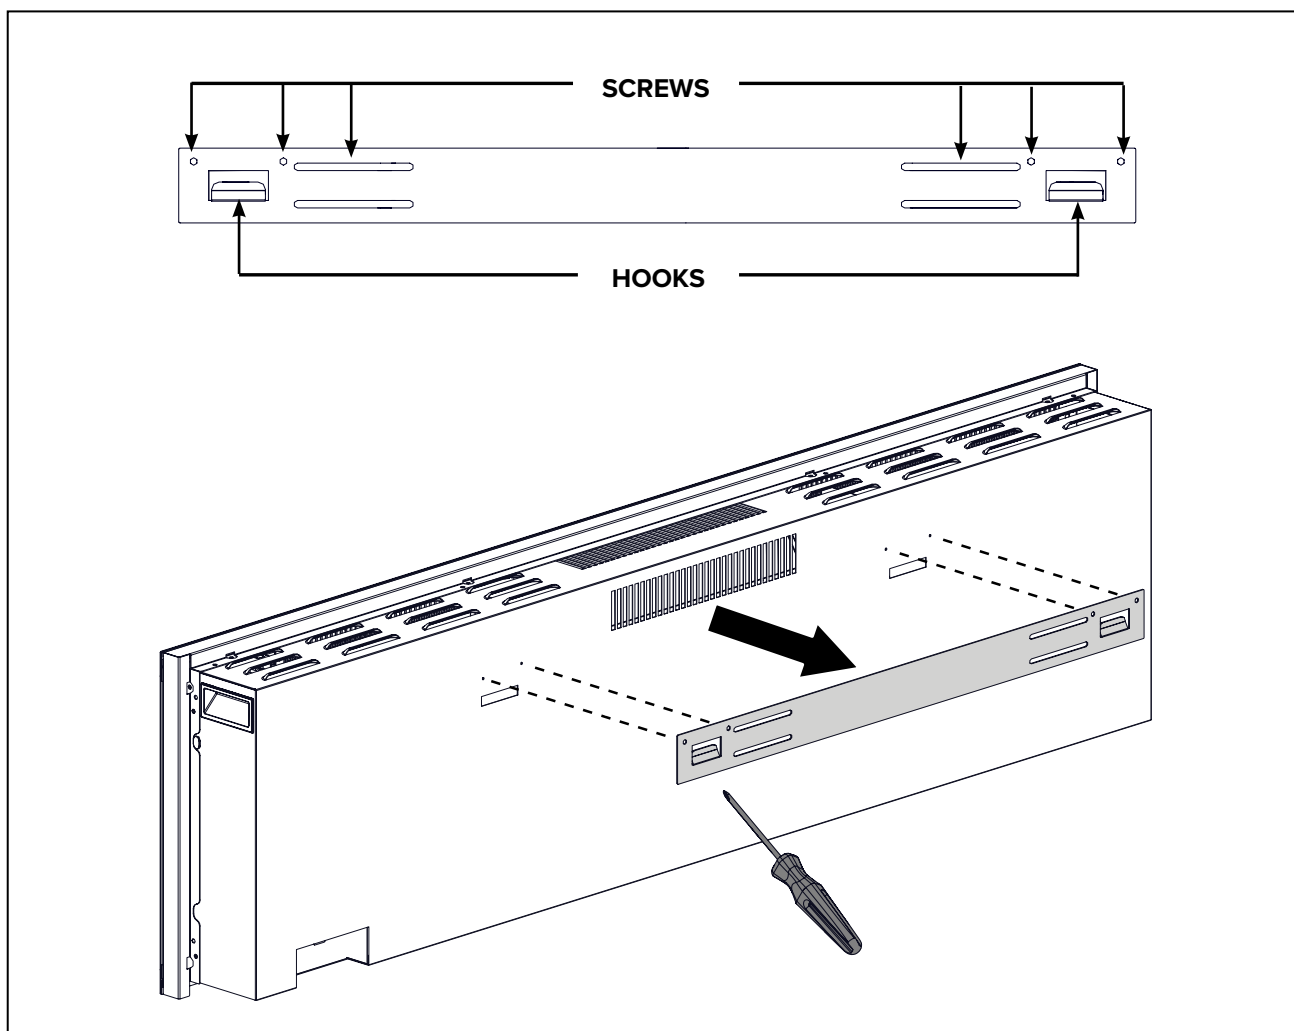
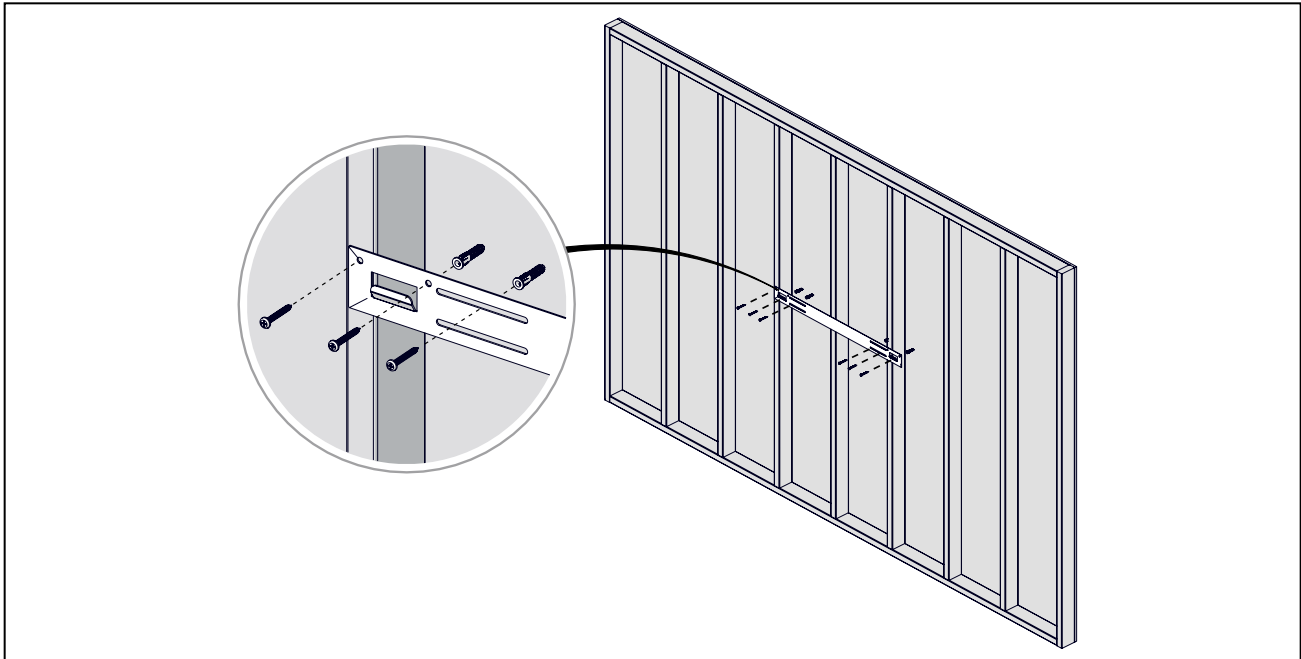
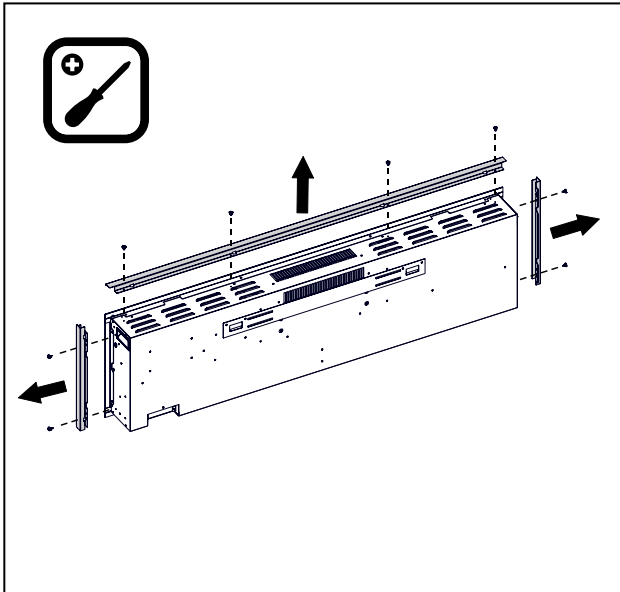

Fig 1
Fig 2
Fig 5
STEP 3: Place unit face down on a soft, nonabrasive surface. Remove the bracket from the back of the unit by removing the screws (**Fig 1**).
STEP 4: Mark out location, then mount the bracket onto the wall using the supplied screws. This bracket **MUST** have the hooks facing upward and be level (**Fig 2**).
L-bracket into the wall anchor to secure the fireplace from coming off the hooks, refer to Figure 5.
STEP 6: Have two adult people to lift up the fireplace and insert it into the rough-in frame and then secure it by installing 2 wood screws (B) through the holes, refer to Figure 1 and Figure 2. L-bracket into the wall anchor to secure the fireplace from coming off the hooks, refer to Figure 5.
STEP 1: (For fully recessed units only): remove the decorative frame around the unit (**Fig 5**).